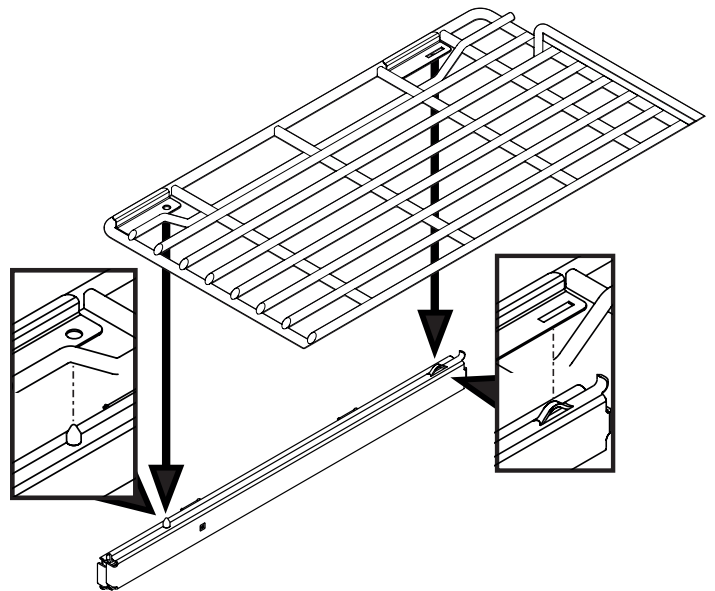

Figure 19: Installing glide racks
The glide racks appear slightly different than the flat racks (see Figure 19). Only the glide racks can be installed onto the glide tracks.
3. Near the back of the rack, fit the rack slot onto the track tabs. Near the front of the rack, fit the track pin into the hole on the rack (see Figure 19).